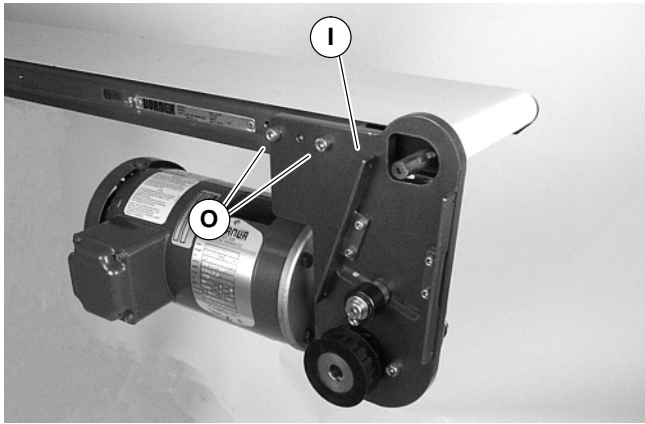

Figure 7
4. Attach mount assembly (I of Figure 7) with screws (O). Tighten screws to 9 Nm.